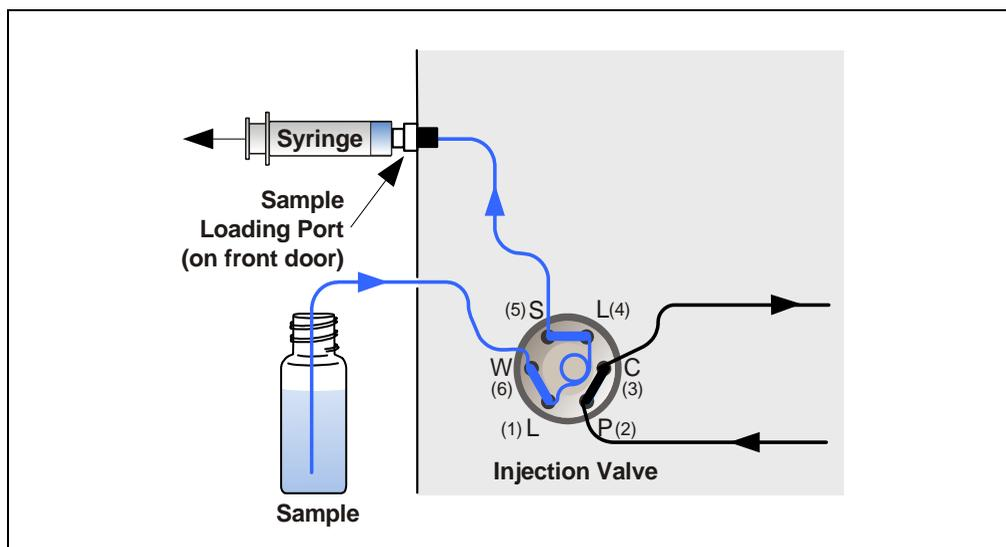

Figure 3-6. Loading Sample with a Vacuum Syringe (Pull Method)
1. Verify that the sample loading port on the front of the Dionex Easion is connected to sample port **S (5)** on the injection valve (see Figure 3-6).
2. Disconnect the waste line from port **W (6)** on the injection valve and attach a shorter line: 25 to 30 cm (10 to 12 in) of PEEK or PTFE (polytetrafluoroethylene) tubing (see Figure 3-6).